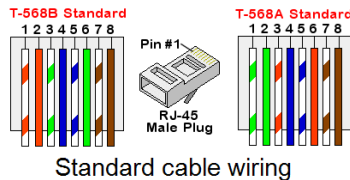

Figure 30: Standard cable wiring
- c. Insert the eight wires into an RJ45 connector, as described in *Figure 30*.
7. For the switch/router side, use a pre-terminated cable or use a crimper to prepare an RJ45 communication connector: Insert the eight wires into the RJ45 connector in the same order as above (*Figure 30*).